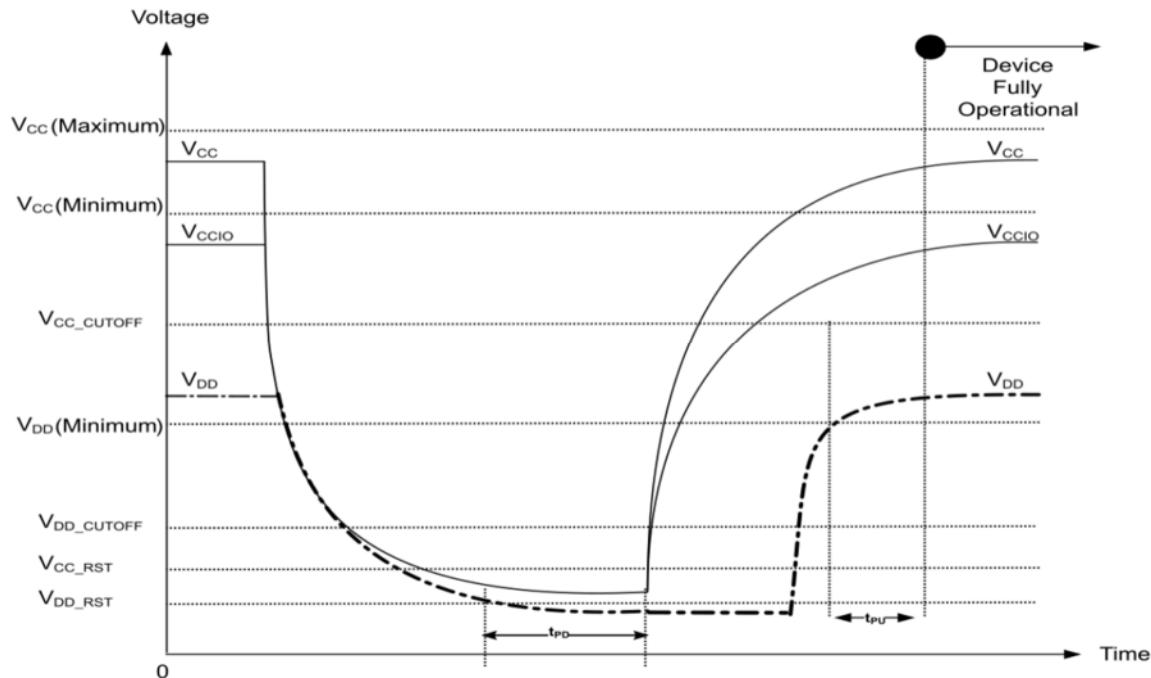

Figure 8: Power-Down Behavior
- During Power-up, recovering from power loss or brownout, a delay of tPU is required before normal operation commences (Figure 8).